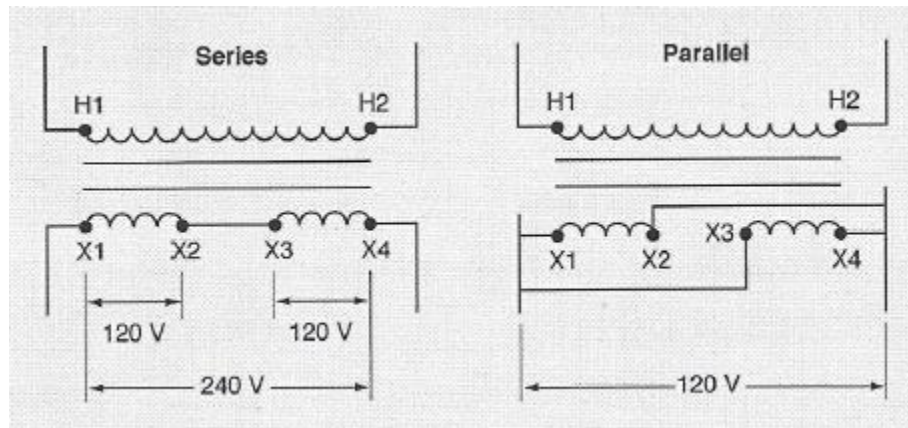

Figure 9.4: Connecting Transformer Secondary Windings
9-27 Distribution transformers are usually made with two secondary windings, as shown in Fig. 9-4. You have a choice in connecting the two windings. You can connect the two windings in series, as shown in the diagram at the left in Fig. 9-4, or in parallel, as shown at the right.
- The series connection gives you two outputs at different potential differences. The outputs are marked 120 V and 240 V in Fig. 9-4.
- The parallel connection gives you only one output, marked 120 V in Fig. 9-4. However, this connection enables the transformer to deliver more current than the series-connected transformer.